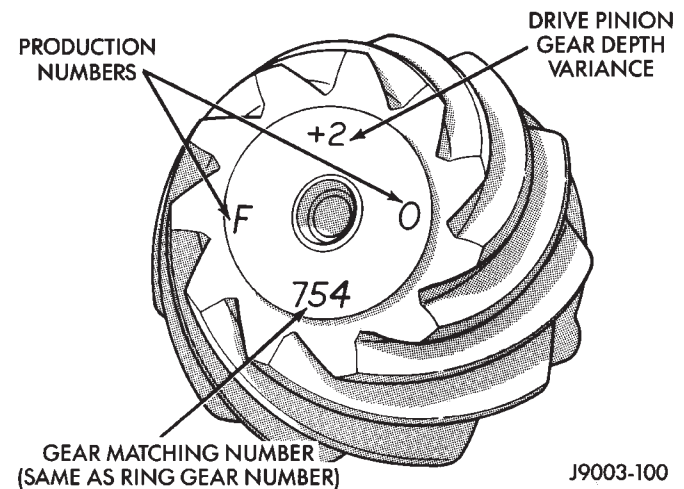

Fig. 66 Pinion Gear ID Numbers
Ring and pinion gears are supplied as matched sets only. The identifying numbers for the ring and pinion gear are etched into the face of each gear (Fig. 66). A plus (+) number, minus (–) number or zero (0) is etched into the face of the pinion gear. This number is the amount (in thousandths of an inch) the depth varies from the standard depth setting of a pinion etched with a (0). The standard setting from the center line of the ring gear to the back face of the pinion is 109.52 mm (4.312 in.). The standard depth provides the best teeth contact pattern. Refer to Backlash and Contact Pattern Analysis Paragraph in this section for additional information.
(9) Select a shim equal to the dial indicator reading plus the drive pinion gear depth variance number etched in the face of the pinion gear (Fig. 66) using the opposite sign on the variance number. For example, if the depth variance is -2, add +0.002 in. to the dial indicator reading.